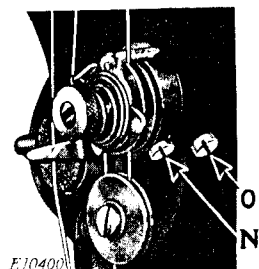

Fig. 23. Adjustments on Thread Controller
For more controller action on the thread, loosen the stop screw (N, Fig. 23) at the right of the tension and set the stop lower, and for less action set the stop higher, then tighten the stop screw (N).
To strengthen the action of the controller spring on the thread, loosen the tension stud screw (O, Fig. 23) at the right of the stop screw and turn the tension stud slightly to the left with a screw-driver, or to lighten its action, turn to the right and tighten the tension stud screw (O).